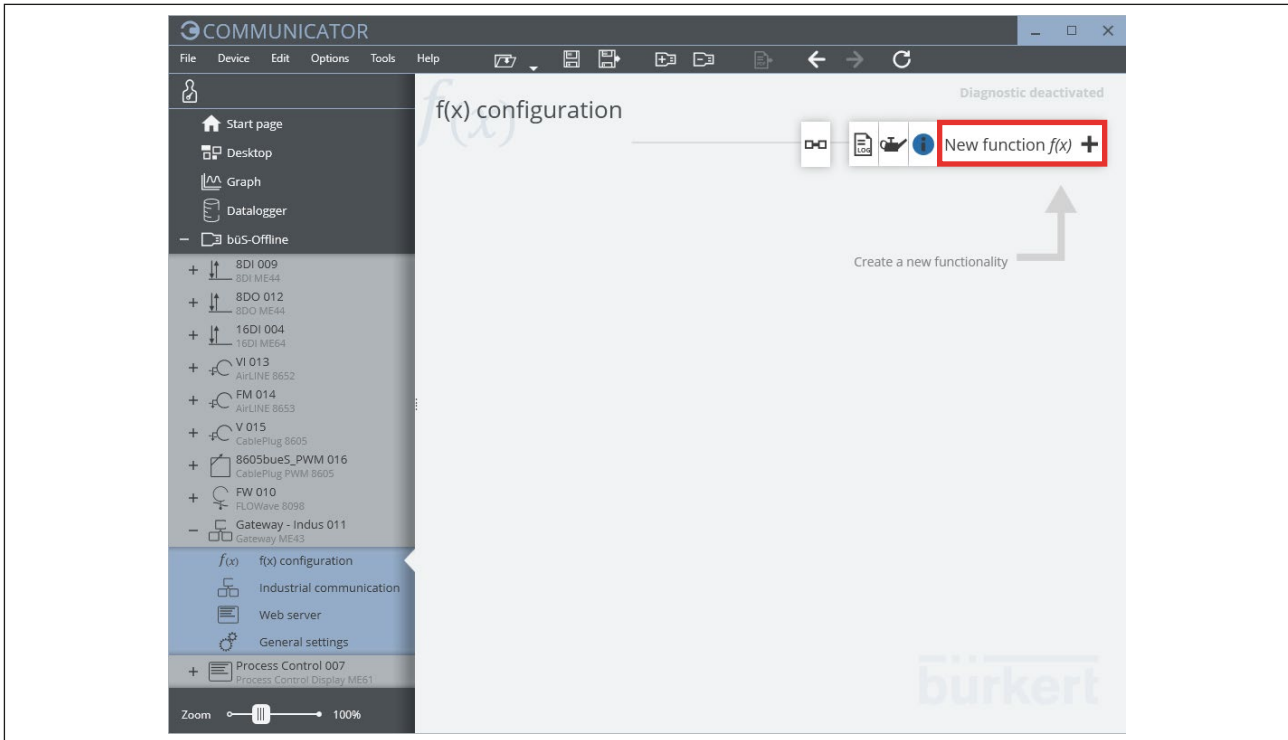

Fig. 3: *f(x) configuration*
- If *f(x)* function is still not displayed, select “*New function f(x)*” and then “*Batch*”. (see “Fig. 3: f\(x\) configuration”)